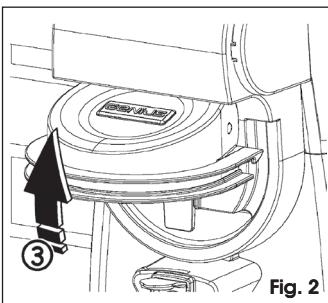

Fig. 2
2. Open the release cover, Fig. 2.